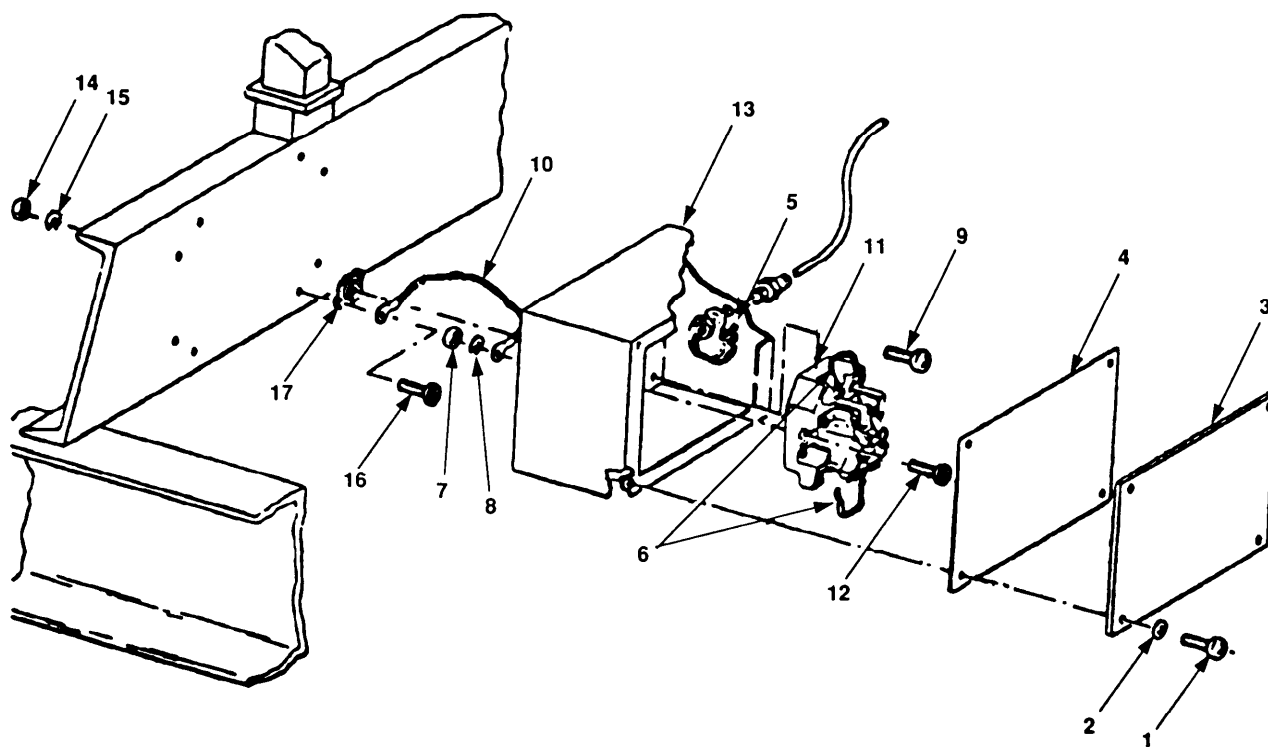

Figure 4-51. Run Relay K2 Replacement (Regulated Model ADC1500 only).
- a. Remove four screws (figure 4-51, 1), lockwashers (2), one cover (3), and one gasket (4).
- b. Tag and disconnect three leads (5) and two jumper wires (6) .
- c. Remove two lock nuts (7), washers (8), screws (9), ground strap terminal (10), and relay (11) .
- d. Remove four screws (12) and box (13).
- e. Remove eight nuts (14), lockwashers (15), screws (16), one ground strap (10), and four mounts (17).
- a. Install four mounts (17), ground strap (10), eight screws (16), lockwashers (15), and nuts (14).
- b. Install box (13) and screws (12).
- c. Install relay (11), ground terminal (10), two screws (9), washers (8), and lock nuts (7).
- d. Connect two jumper wires (6) and three leads (5).
- e. Install new gasket (4).